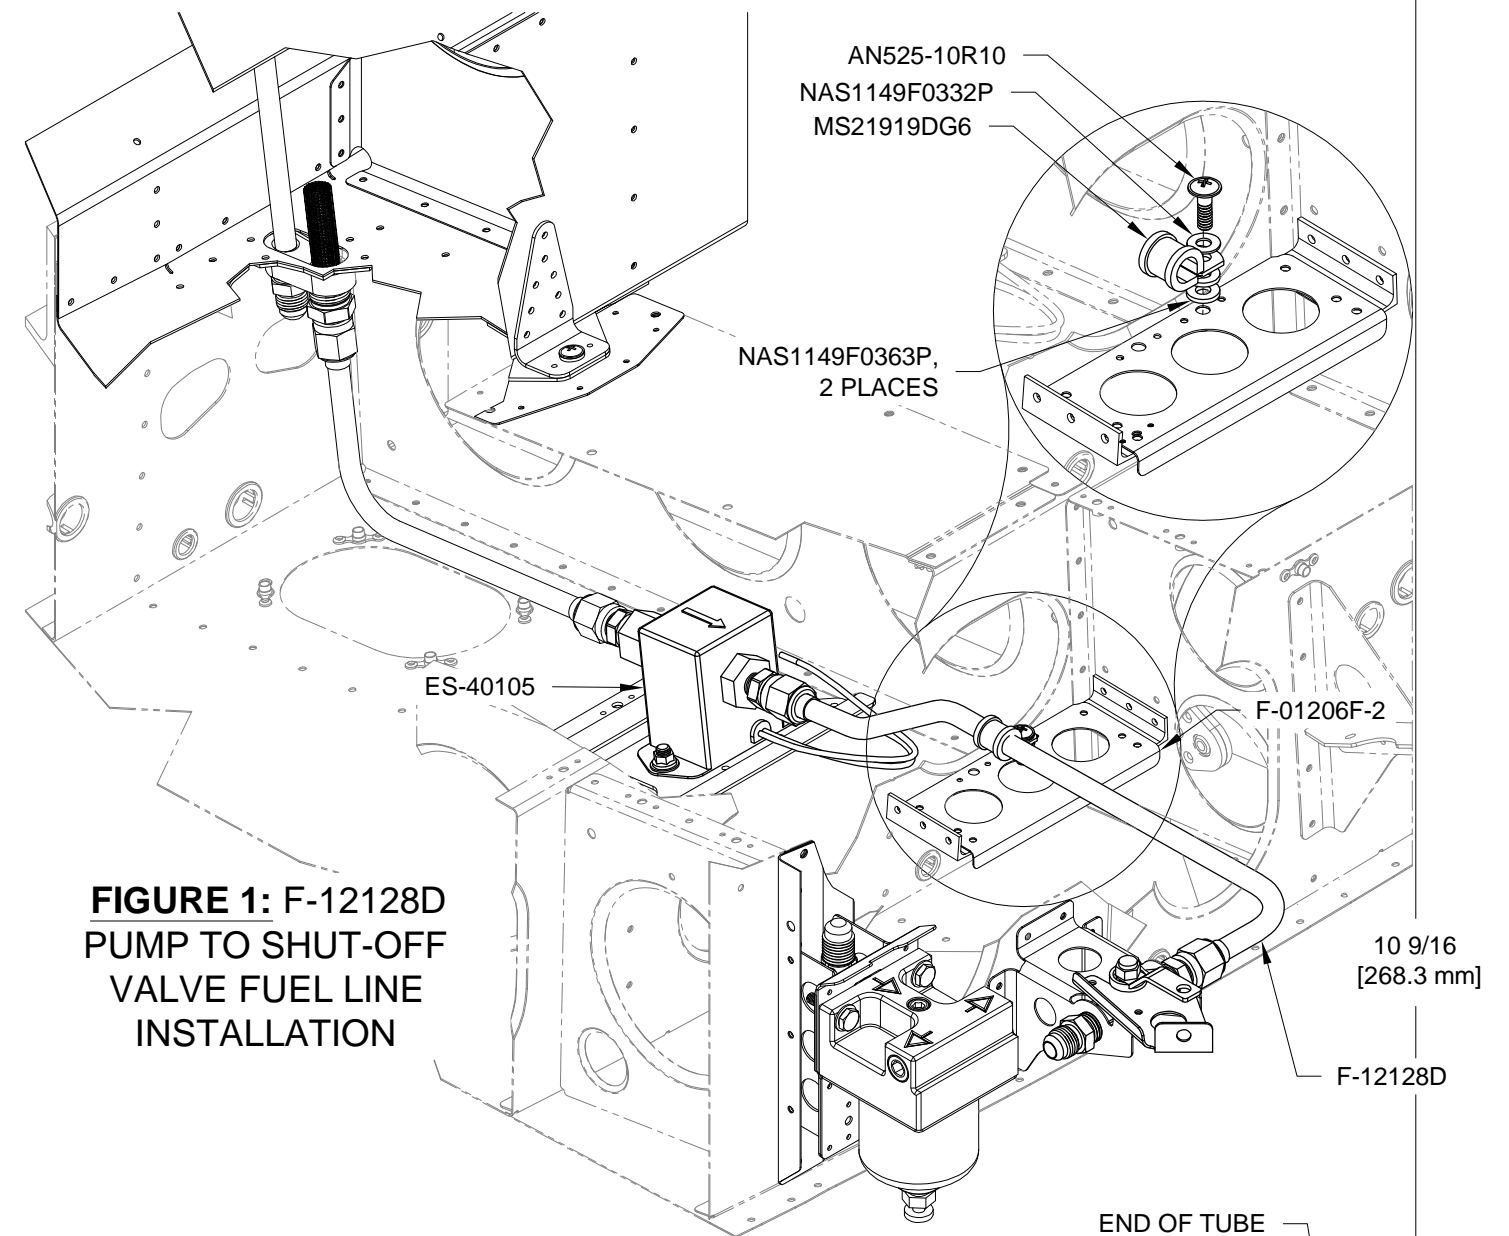

FIGURE 1: F-12128D PUMP TO SHUT-OFF VALVE FUEL LINE INSTALLATION
Step 4: Install the F-12128D as shown in Figure 1. A small amount of bending/adjustment by hand is acceptable.
Step 5: Place the clamp around the fuel line and install the screw and washers as shown in the detail view in Figure 1.